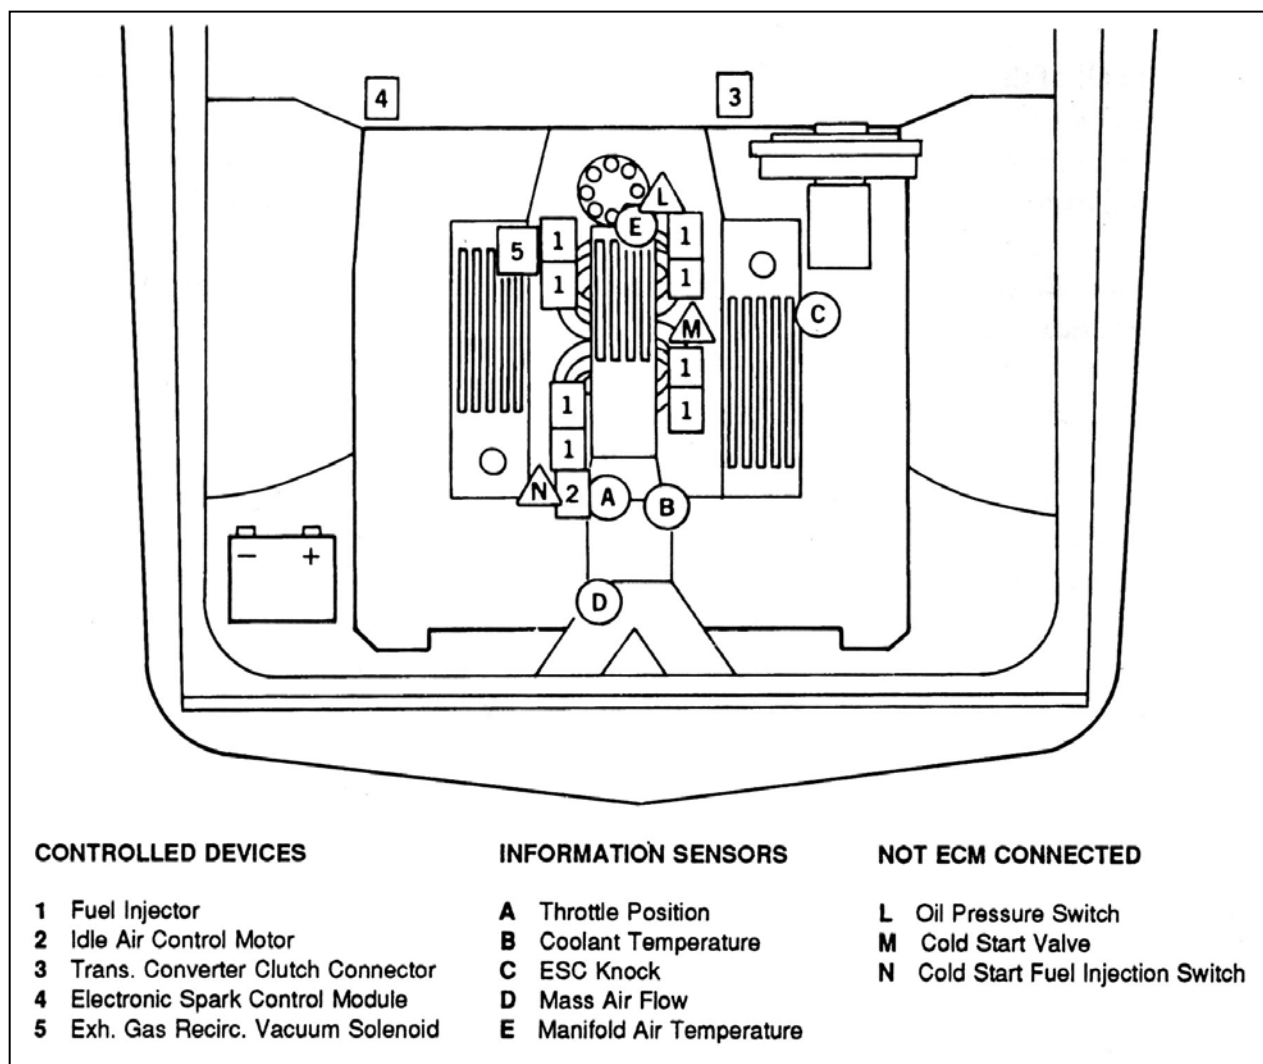

Figure 7.5 Engine Compartment Overview
- 7.2.3** Using **Figure 7.5, Table 6.1** and the specific illustrations indicated in **Table 6.1**, connect the wiring as directed.